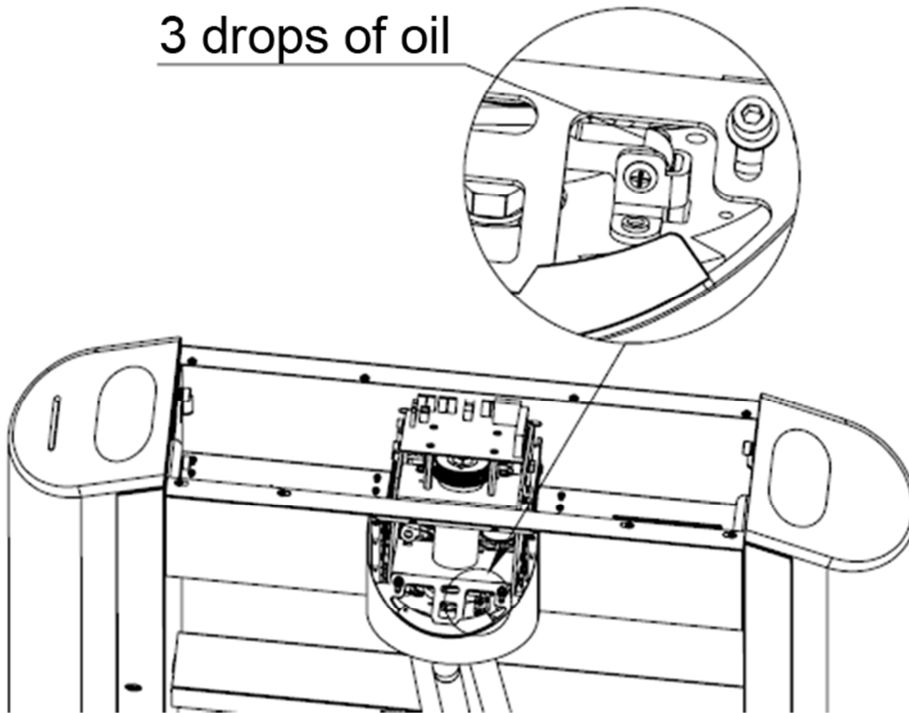

Fig. 12
5.4. The rotation axis of unlocking arms cam (Fig. 12).